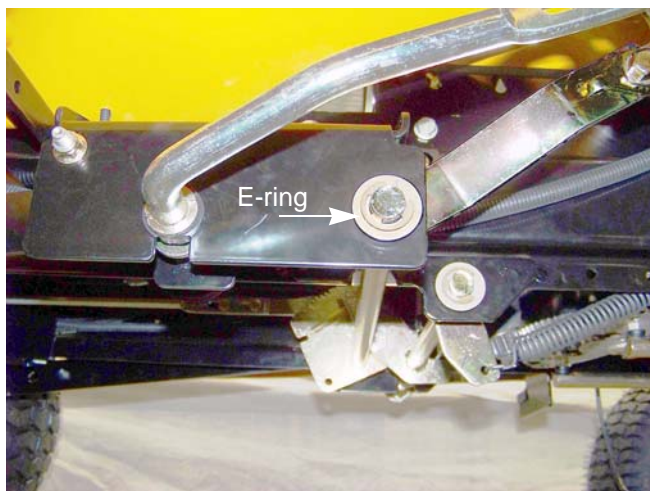

Figure 3.14
3. Remove the E-ring and washers from the right side of the forward drive pedal shaft. See Figure 3.14.